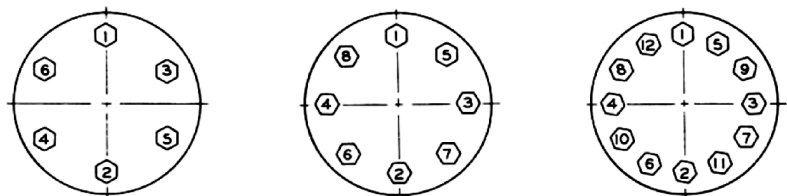

Figure 10
Refer to Figure 10 for proper bolt torque and tightening sequence specifications. Additionally the plug must be stroked manually while evenly tightening the body stud nuts (11) around both bonnet and bottom flange to ensure proper alignment and prevent binding between the plug guides and the bushings.
- F. Insert packing (17) and packing spacer (18).
- G. Install packing follower (19) and packing flange (3).
- H. Install packing flange stud nuts (2).